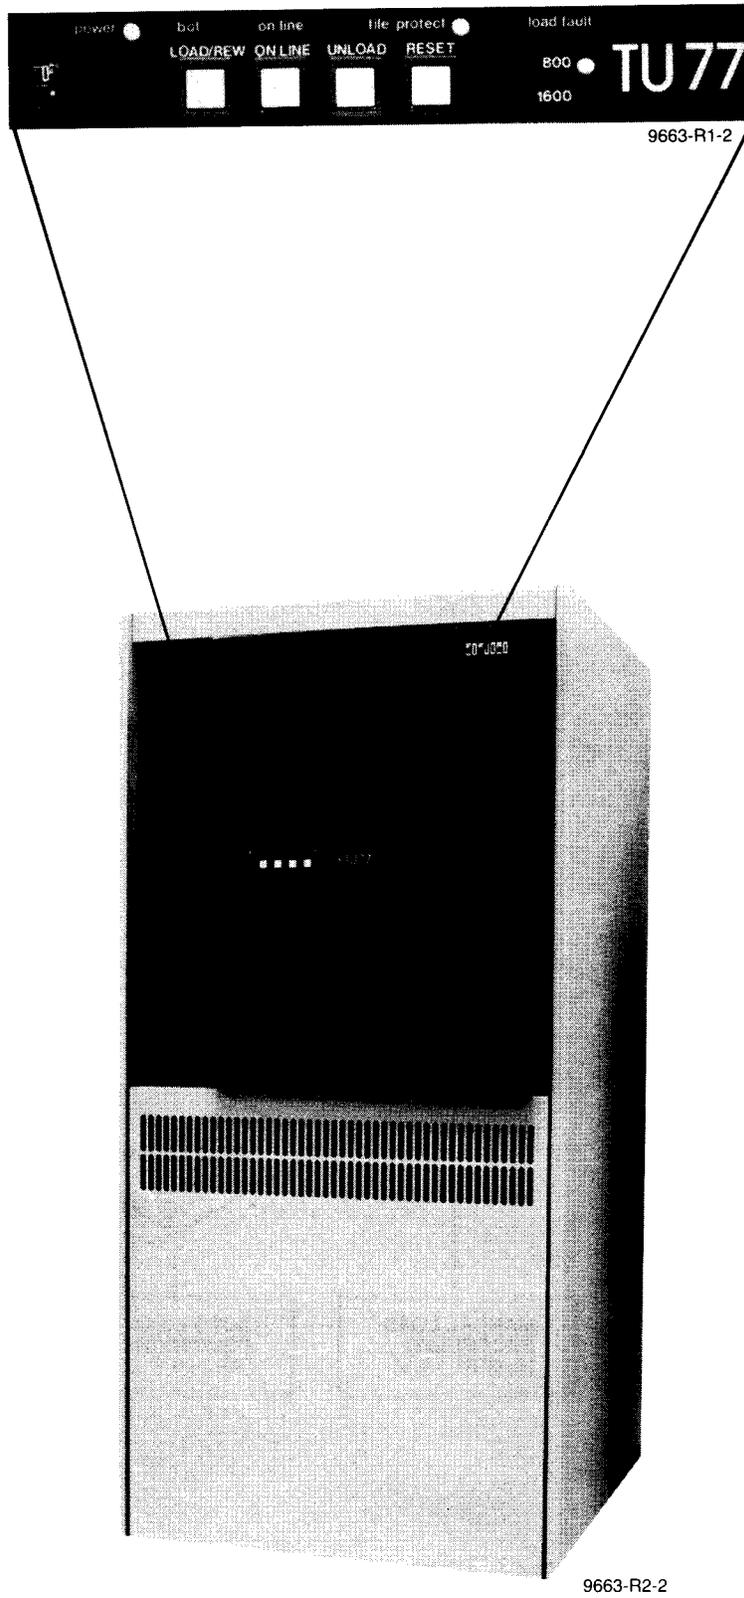

Figure 7-6: TU77 Magnetic Tape Drive
The autoloading procedure requires a full reel of tape be used. A full reel of tape is such that the tape on the reel comes to within 1.59 and 0.64mm (5/8 and 1/4 inch) of the other edge of the reel. Make sure the tape reel is a large 267mm (10-1/2 inch) reel. The supply reel (containing the tape to be read or written) is the top reel on the drive (Figures 7-6 and 7-7). The reel should be positioned in such a way that the tape will unwind if the reel is turned clockwise. You must insert a write-enable ring on the back of the supply reel to allow writing on the tape.
For manual loading, keep in mind that the supply reel (containing the tape to be read or written) is the top reel on the drive (Figures 7-6 and 7-7). The reel should be positioned in such a way that the tape will unwind if the reel is turned clockwise. You must insert a write-enable ring on the back of the supply reel to allow writing on the tape.
2. Manually place the tape leader between thread block number 1 and air bearing number 1 (Figure 7-6). Manually thread 3 to 5 inches of tape.